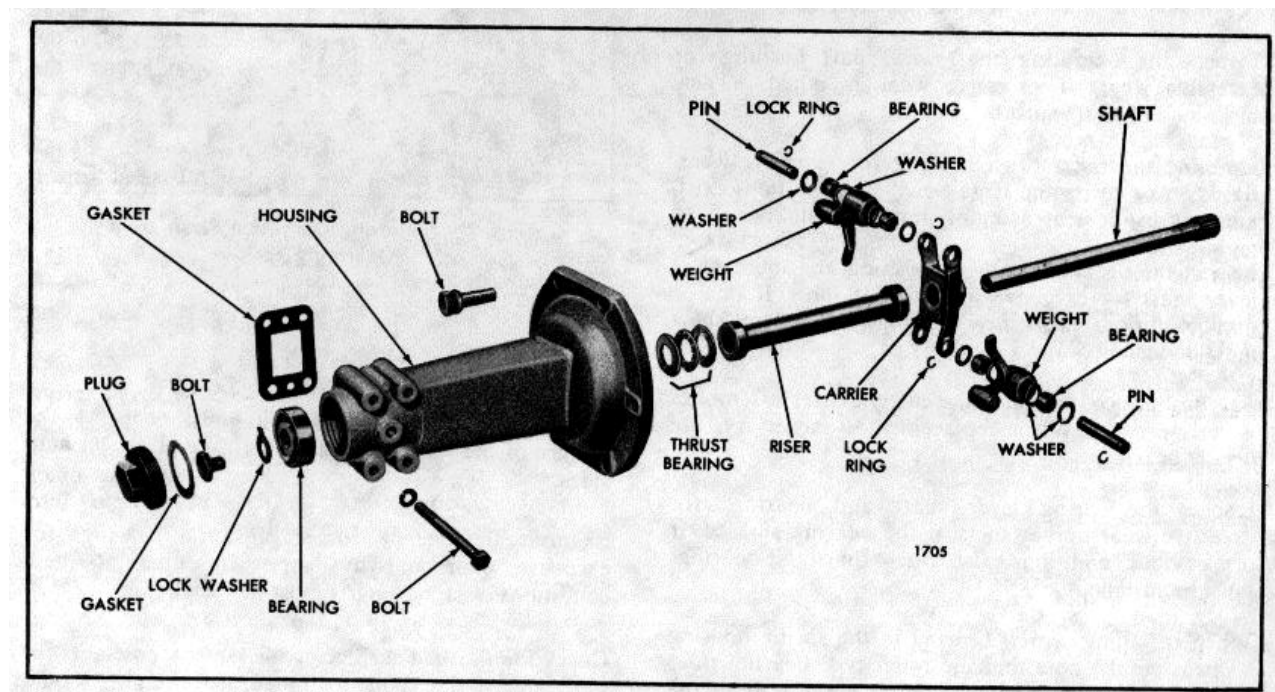

Fig. 9. Governor Weight Housing Details and Relative Location of Parts
- g. If required, the weight carrier may be pressed from the governor weight shaft and a new carrier installed (Fig. 9).
1. Install the lock ring in the groove of the weight pin (Fig. 9). Place the flat washer over the pin and against the lock ring.
10. Place a washer over the bearing retaining bolt (Fig. 9). Thread the bolt into the tapped end of the shaft and tighten it. Bend the tang of the washer against the head of the bolt.
3. Place a new gasket over the dowels and against the side of the weight housing facing the engine (Fig. 9).